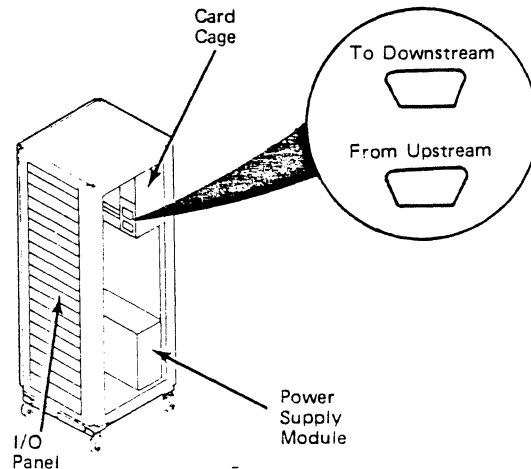

Figure 7-4. View of Timing Connectors on the Card Cage Backplane
5. Install the five-pin timing cables (PN 6431093) in each unit as follows (Figure 7-4):